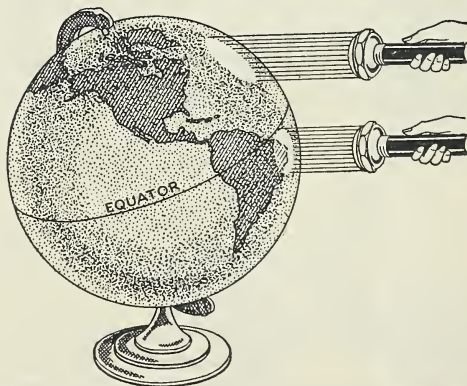

Fig. 568. Why do the sun's direct rays give more heat than the slanting rays?
2. Experiment 181 shows that slanting rays cover more ground than direct rays. Figure 568 shows it more briefly. The same amount of heat is spread over more ground and therefore does not raise the temperature so high.